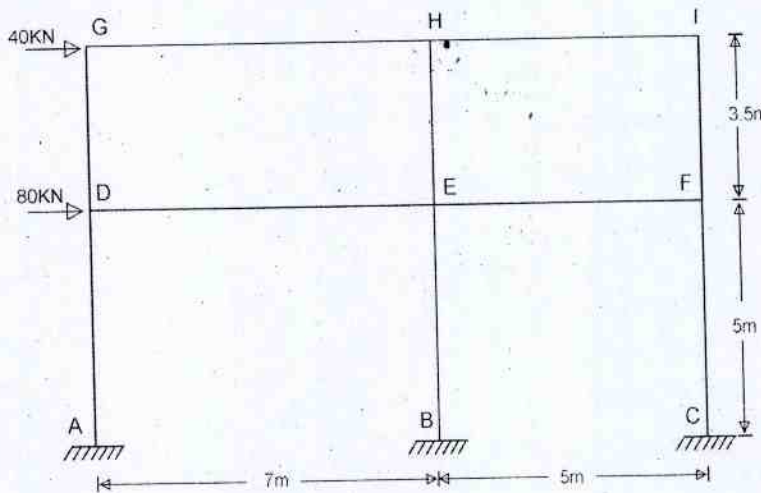

Fig.9
Q.5 Analyze the building frame subjected to horizontal forces as shown in fig.9 by using portal method. Also draw B.M.D. for the frame. [16]